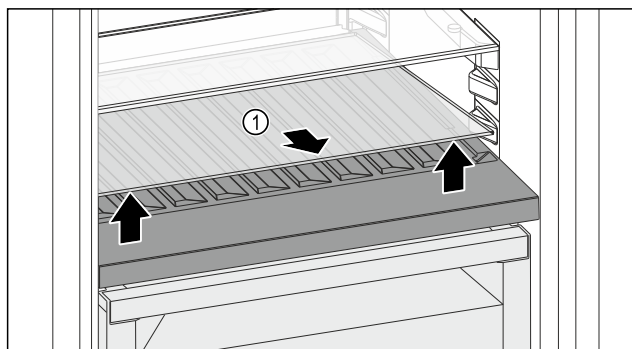

Fig. 205
- Lift the glass shelf Fig. 205 (1) at the front and remove.
- Store the glass shelf Fig. 205 (1) in a safe place outside the appliance.
- Insert the glass shelf (2) under the variable bottle rack.